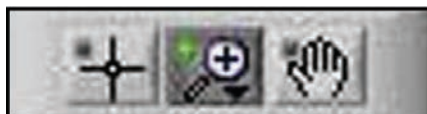

Figure 70: Graph tools
3. There is a series of graph tools available at the top left of the trend plot area (see *Figure 70* below).